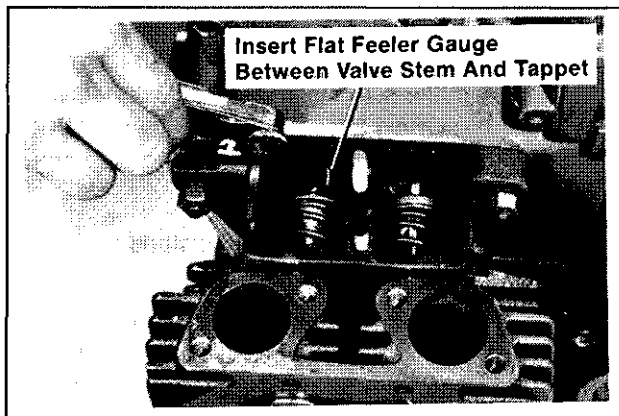

Figure 11-32. Measuring Valve-to-Tappet Clearance.
2. Install valves into valve guides for the cylinder in which **no movement** was observed. Hold valves firmly against seat and measure valve-to-tappet clearance with a flat feeler gauge. Refer to Figure 11-32.